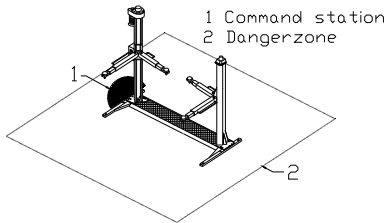
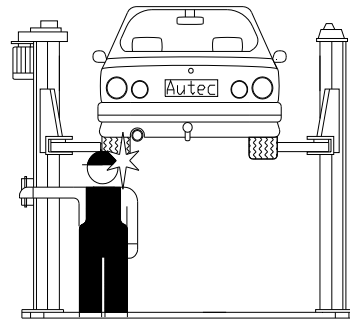

Fig.6
Fig.11
During lift and descent movements, the operator must remain in the command station (1) as defined in figure 6. The presence of persons inside the danger zone (2) in the same figure is strictly prohibited. The presence of persons beneath the vehicle during operations is permitted only when the vehicle is parked in the elevated position.
Possible if the operator controlling the lift is not in the specified position at the command panel. When the platforms and vehicle are descending, the operator must never be partly or completely underneath the moving structure. During this phase the operator must remain in the command zone (Fig.11 + Fig.6).